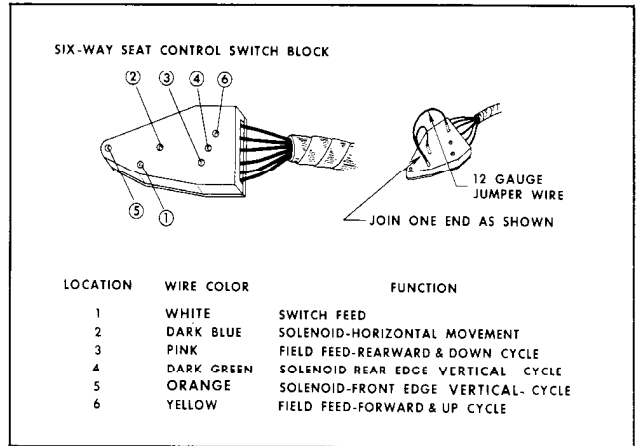

Fig. 17-163 Six-Way Seat Control Switch Block
1. Connect one light tester lead to feed terminal of switch block and ground other test lead to body metal. (Fig. 17-163)
NOTE: In the following operations which specify the seat control switch to be actuated, a switch that has been checked for proper operation may be connected to the switch block. If a switch is not available, a 3-way jumper wire can be made to perform the switch function. The jumper wire and the switch locations to be connected to obtain a specific movement of the seat are shown in Fig. 17-163. If a jumper wire is used, number the locations on the switch block as indicated in the illustration. Details outlining the making, and use of the jumper wire follow the checking procedures.
To make jumper wire, obtain 2 pieces of No. 12 gauge wire, each 4-1/2" long. Join one end of each wire as shown in Fig. 17-163. The joined end can be inserted in the feed location in the switch block; one of the remaining ends can be inserted into one of the field locations in the switch block; the other end can be inserted into one of the solenoid locations.
1. To raise front edge of seat, place jumper in locations 1, 6 and 5. (Fig. 17-163)